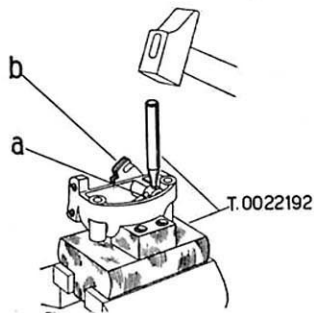

Fig. 84. Assembling the gear shifter internal lever.
1. Mount the index plate casing on fixture T. 0022192 as shown in Fig. 84.
2. Rotate the shifter lever "a" 180° in a clockwise direction, in respect to the position shown on Fig. 84 to stop against the casing edge.
6. Slide the quadrant "b" in and press in the pin as shown on Fig. 84.